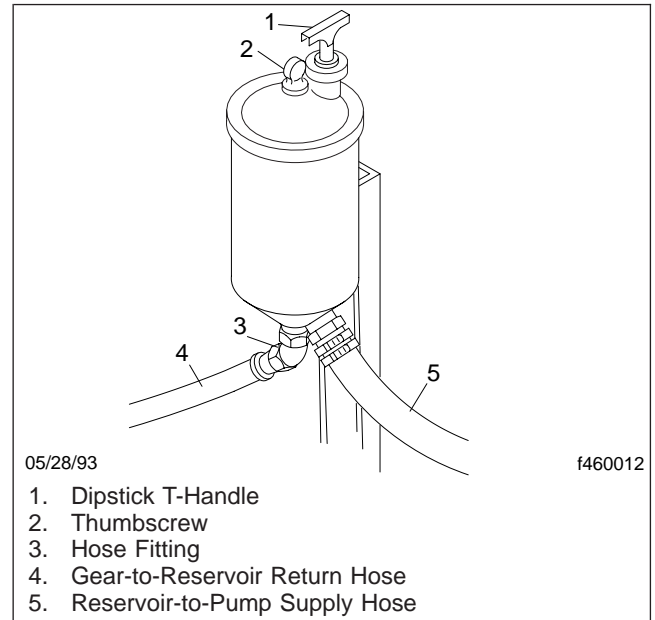

Fig. 8, 2-Quart Power Steering Reservoir, 2-Line (typical)
1. Clean around the power steering reservoir dipstick (fill cap) with a clean rag. Then remove the dipstick (fill cap). See Fig. 8.
1. For a 2-quart or a 4-quart power steering reservoir, remove the dipstick, thumbscrew or cover capscrew, and cover. See Fig. 8.